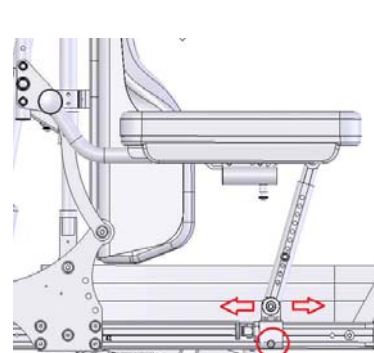

Figure 5-68
5.3.4.2.17 Use the #5 Allen Key Wrench to loosen the screw. Adjust the base block forwards or backwards and re-tighten the screw. (Figure 5-68)